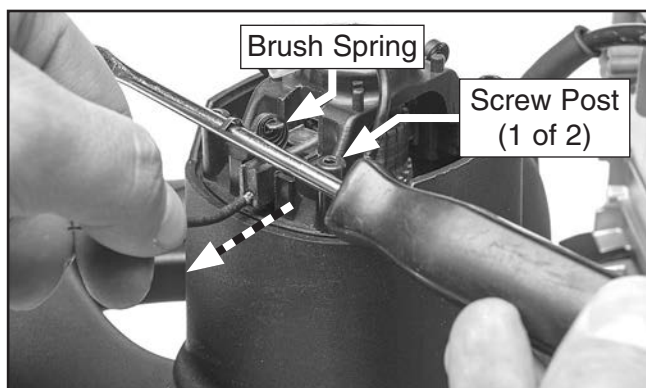

Figure 32. Removing brush from holder.
6. Using a flat head screwdriver, carefully position screwdriver shaft under brush spring and brace against both screw posts. Lift brush spring straight up and gently pull brush wire to slide brush out of holder (see **Figure 32**).